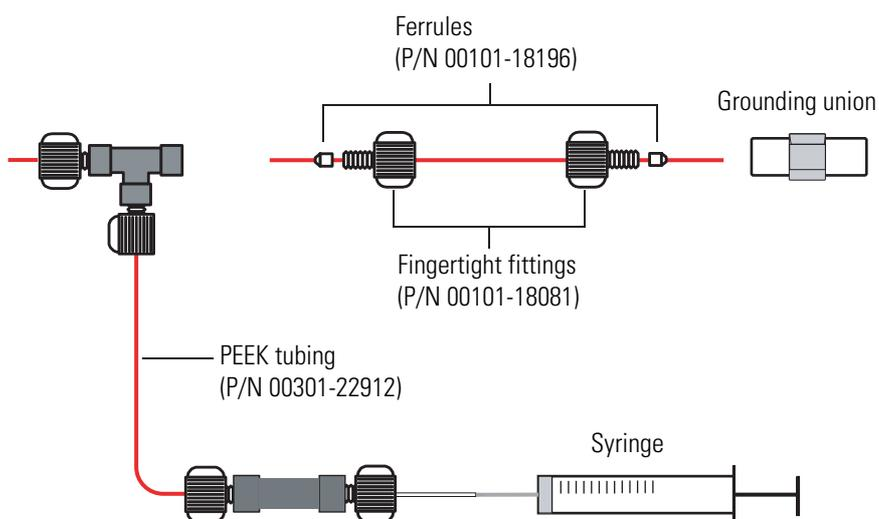
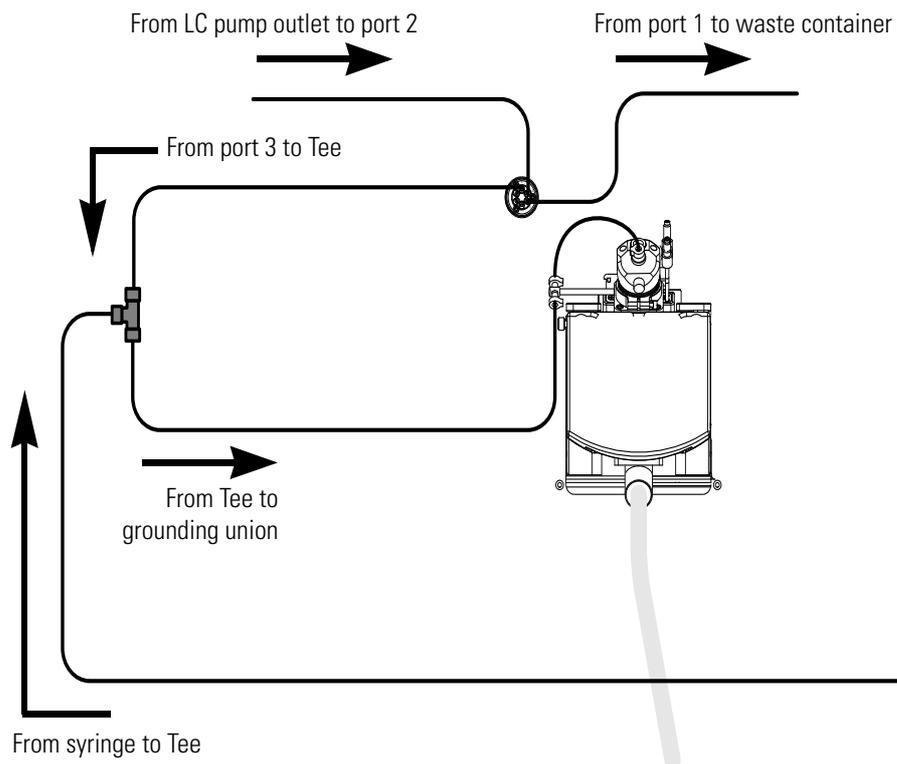

Figure B-8. Connecting the union Tee to the grounding union used for the ESI probe
Figure B-9. Plumbing diagram showing ESI/MS sample introduction with high-flow infusion
- For the ESI probe, use a fingertight fitting and a ferrule to connect the other end of the tubing to the grounding union that is held by the grounding bar of the Ion Max API source. See Figure B-8 and Figure B-9.